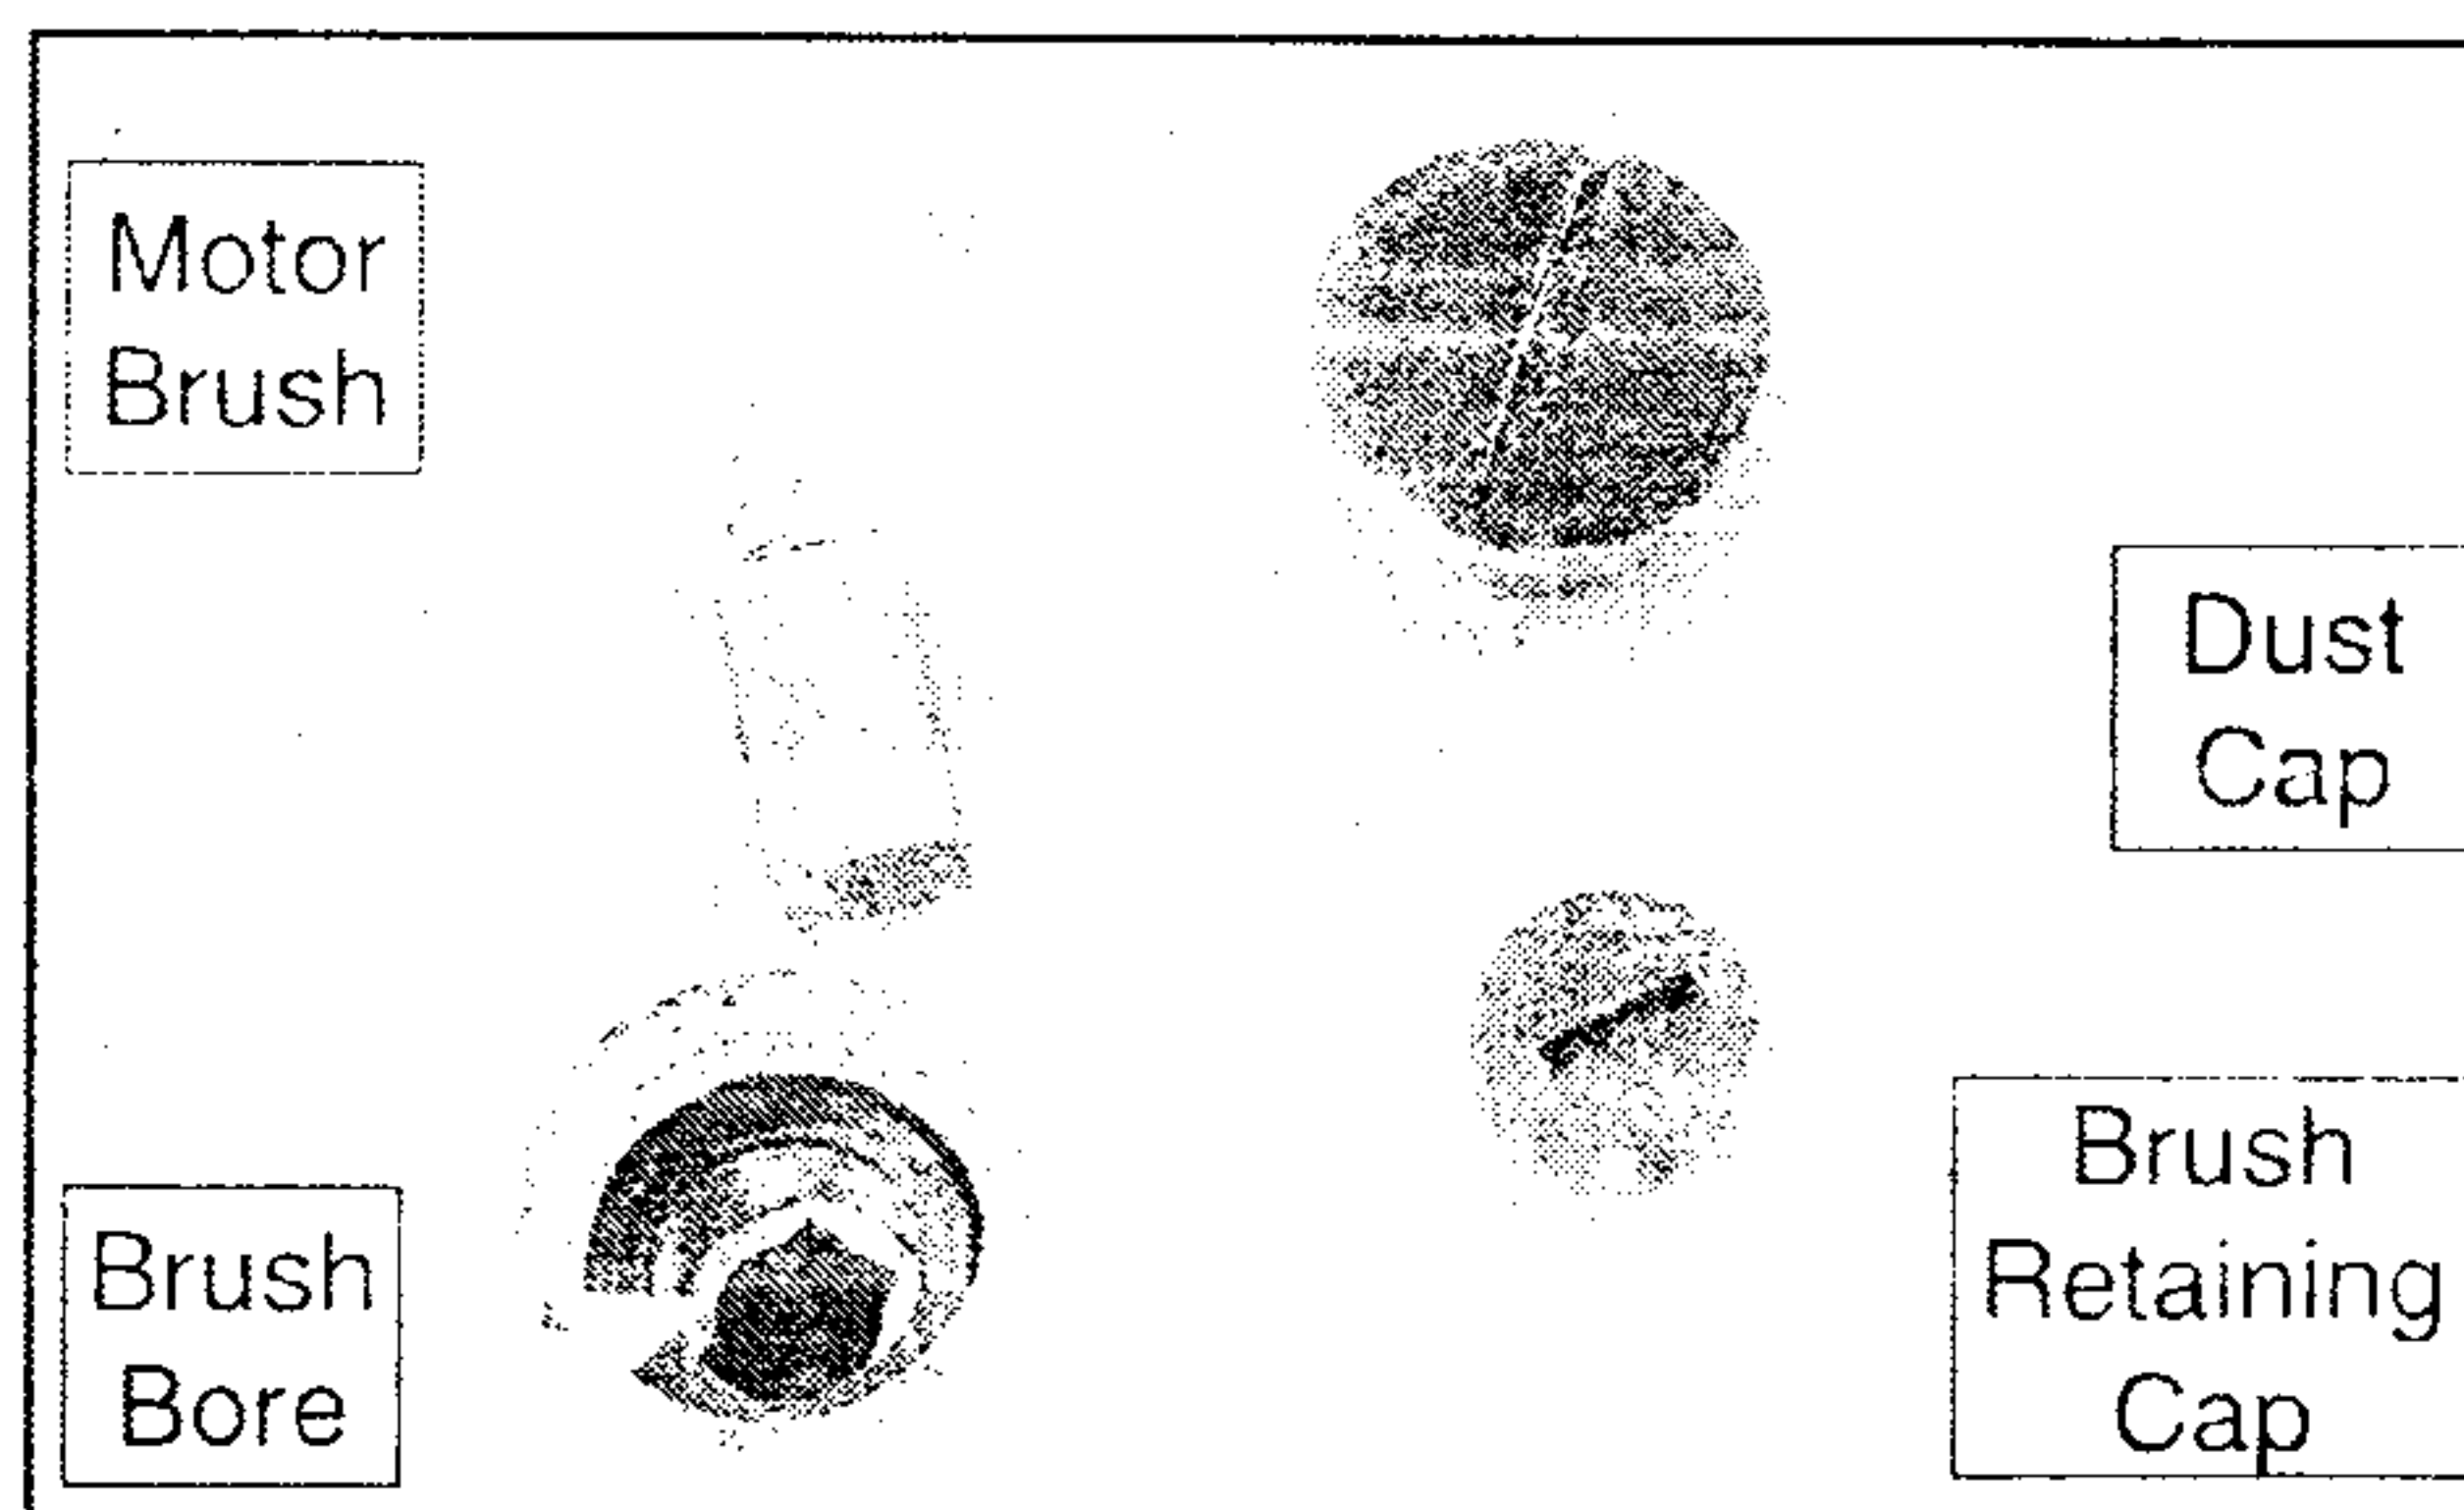

Figure 25. Brush components.
3. Unscrew the brush retaining cap, use needle nose pliers to replace the brush, and reinstall the caps (Figure 25).